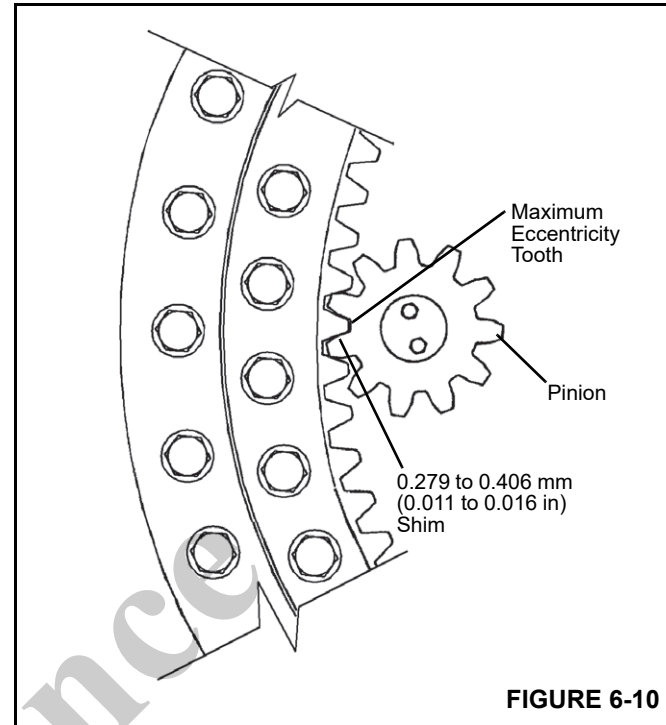

FIGURE 6-10
6. Install the swing drive pinion so that the high point (maximum eccentricity) is aligned with the turret bearing high point. Check the backlash with a 0.279 to 0.406 mm (0.011 to 0.016 in) thick shim (Figure 6-10). If the pinion must be moved to achieve proper backlash, contact your local distributor.